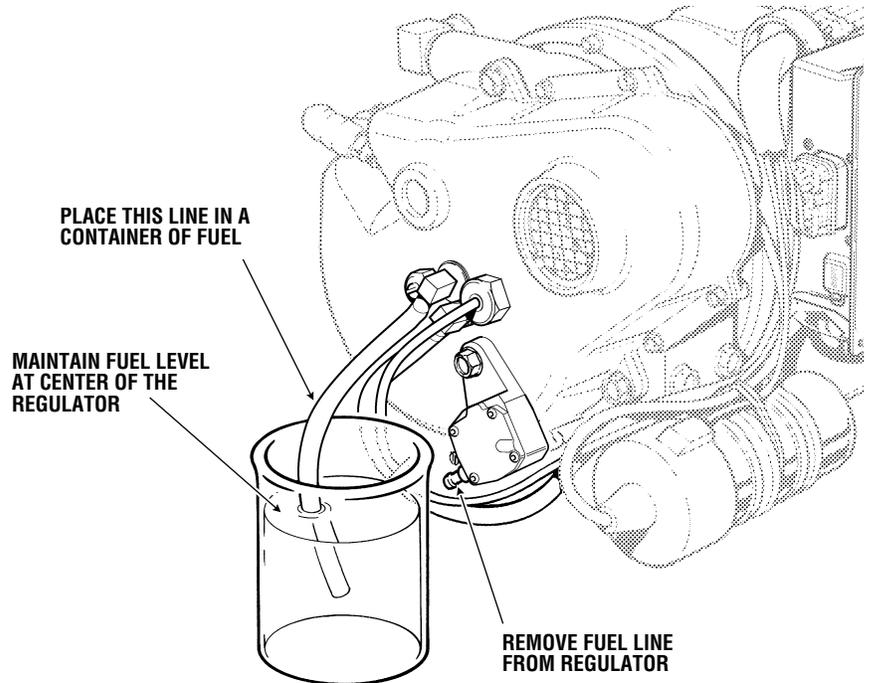

Figure 4-7. Eliminating Fuel Pump and Regulator from System
2. Put this end of fuel into a small container of clean fuel that is about the same level as the regulator center as shown in figure 4-7. This will remove the vehicle fuel supply, fuel pump and regulator from the fuel delivery.